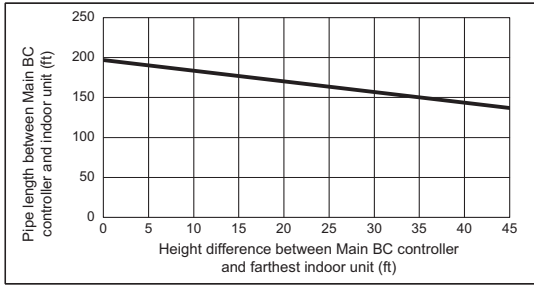

Fig. 2
- *2. Details refer to Fig. 2.
- *7. When the piping length or the vertical separation exceeds the limit specified in Fig. 2, connect a sub BC to the system. The restriction for a system with a sub BC connection is shown in Fig. 3. When a given system configuration falls within the shaded area in Fig. 3, increase the size of the high-pressure pipe and the liquid pipe between the main BC and sub BC by one size. When using P12, P15, P18, P36, or P48 model of indoor units, increase the size of the liquid branch pipe between the sub BC and indoor unit by one size. When using indoor models P54 or larger, the restrictions shown in Fig. 2 cannot be exceeded.
*7. When the piping length or the vertical separation exceeds the limit specified in Fig. 2, connect a sub BC to the system.
When using indoor models P54 or larger, the restrictions shown in Fig. 2 cannot be exceeded.